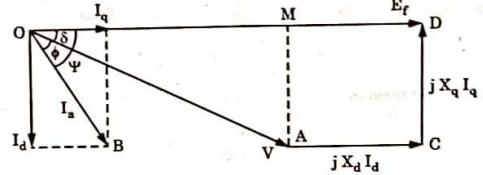

Fig. 1.8.1. Phasor diagram at lagging pf of a salient-pole generator, neglecting  $R_a$ .
2. From the phasor diagram of Fig. 1.8.1,